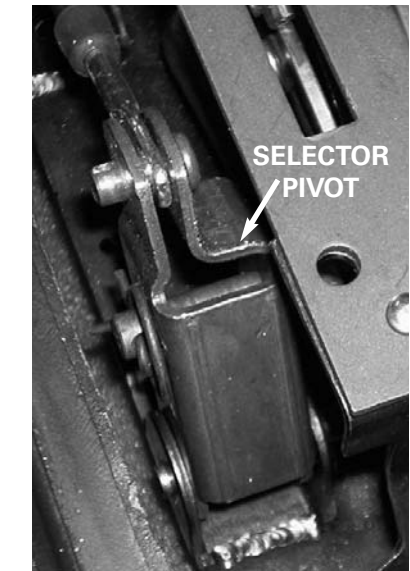

FIGURE 4
- Remove cotter pin, washer and clevis pin from top of selector pivot at rear of shifter and attach eyelet end of cable reusing clevis pin, washer and cotter pin (see fig. 4).